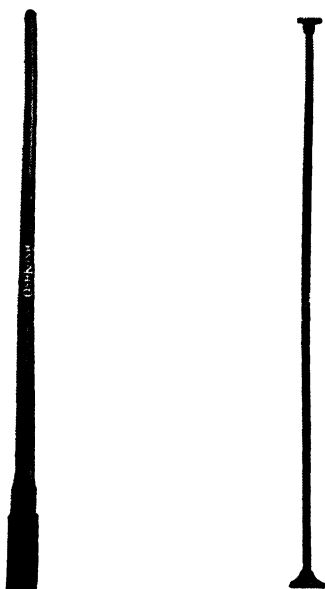

FIG. 11-50. Wood and steel tamping bars used in pole setting. (Courtesy Leach Co.)
**Backfilling and Tamping.** After the pole is *lined in*, the hole is back-filled and tamped (Figs. 11-48 and 11-49). The size of the crew for this operation is usually four men, regardless of the size of the pole. The reason for not using more men is because four men are about all that can work around a pole. Of these four men, only one shovels the earth back into the hole while the other three tamp the earth firmly in place. Special tamping bars, as illustrated in Fig. 11-50, are used for this work.